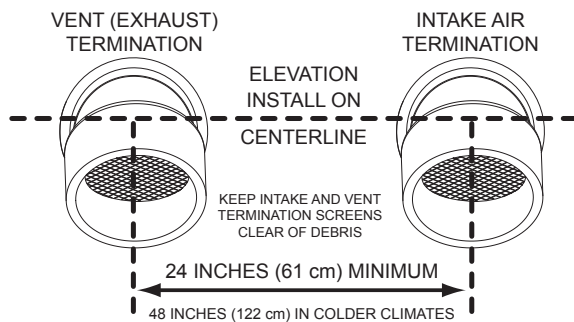

Figure 25. Side-Wall Termination - Direct Vent:
- If installing both an intake air and vent termination in a Direct Vent configuration through a sidewall there must be a minimum of 24 inches (61 cm) separation, measured on vertical center line, between the intake air and vent terminations, see **Figure 25**.
- If installing both intake air and vent terminations in a Direct Vent configuration through a sidewall the intake air and vent terminations must be installed at the same elevation measured on horizontal center line - see **Figure 25**.
- However, the distance between the closest vent and intake air terminations must be a minimum of 24 inches (61 cm). In colder climates this separation should be increased to at least 48 inches (122 cm). See **Figure 25** (page 27).